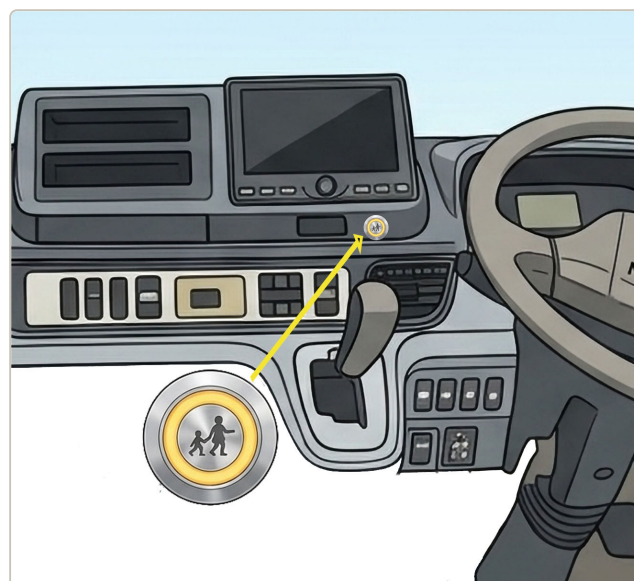

Fig. 4— Switch location on dash
1. Using an 18–20mm hole saw, cut a hole in the dash and insert the supplied switch. See Fig 4 for suggested position.